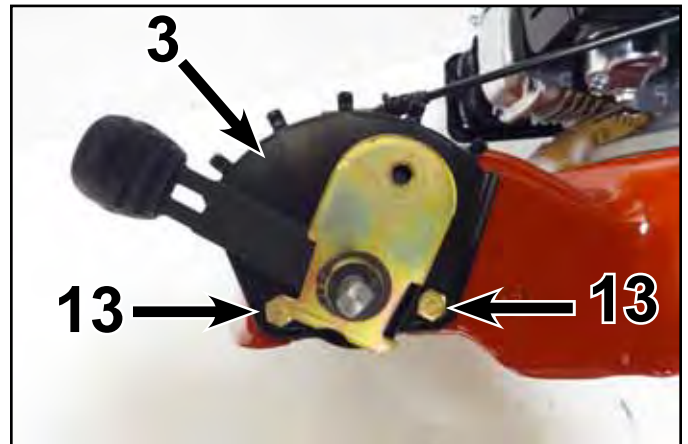

Fig. 154 013a
- Remove (2) screws (#13) from each height-of-cut plate (#3) (Fig. 154).